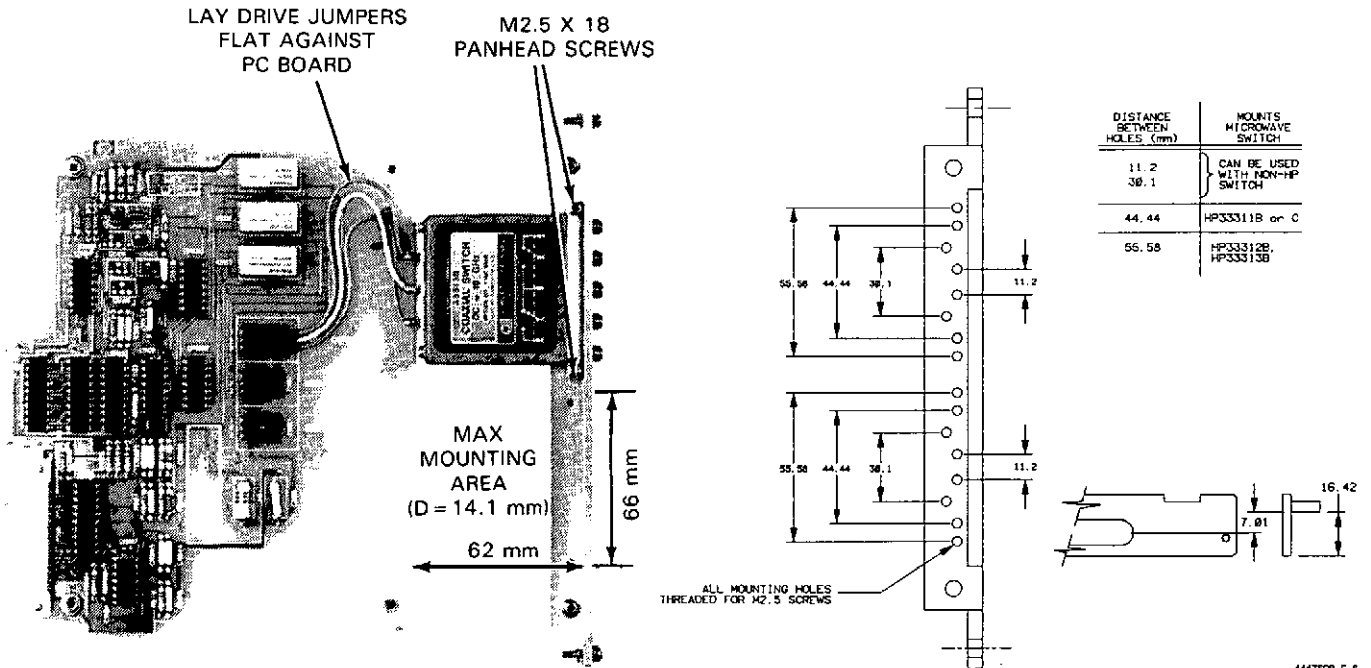

Figure 12-6. Mounting the Microwave Switch
2. Figure 12-6 shows an HP 33313B Option 011 5-port switch mounted on the module. Two pan-head M2.5 x 18 mm long screws through the switch and into the module panel mount the switch. The tapped holes in the panel accommodate HP 3331X type microwave switches. The illustrated portion of Figure 12-6 identifies which mounting holes go with which type of microwave switch. Also shown are the maximum switch dimensions that can be accommodated by the HP 44476B if non-HP switches are used.